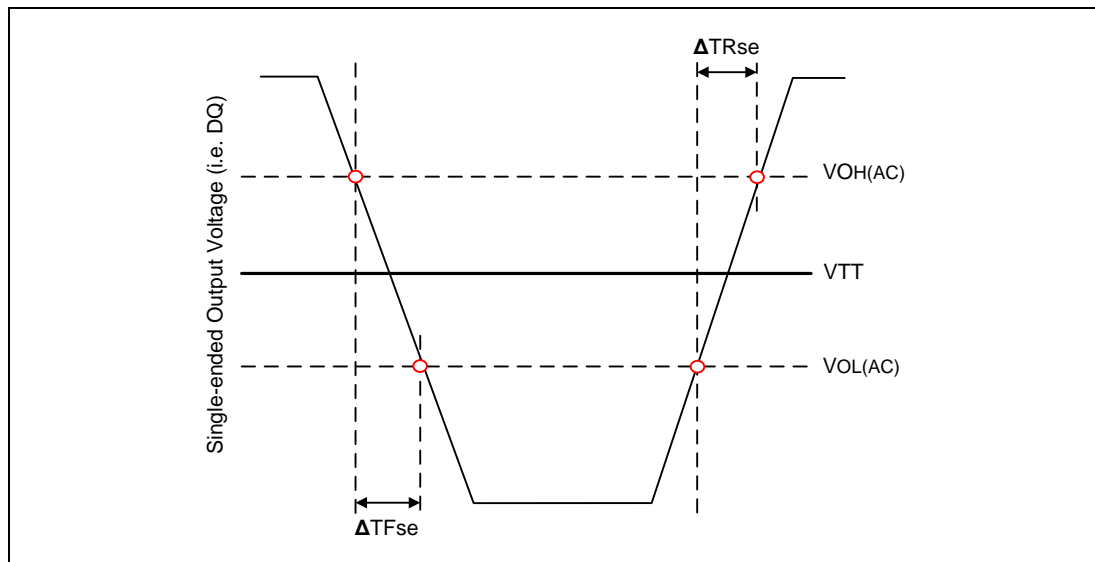

Figure 94 –Single-ended Output Slew Rate Definition
With the reference load for timing measurements, output slew rate for falling and rising edges is defined and measured between VOL(AC) and VOH(AC) for single ended signals as shown in Table 27 and Figure 94.